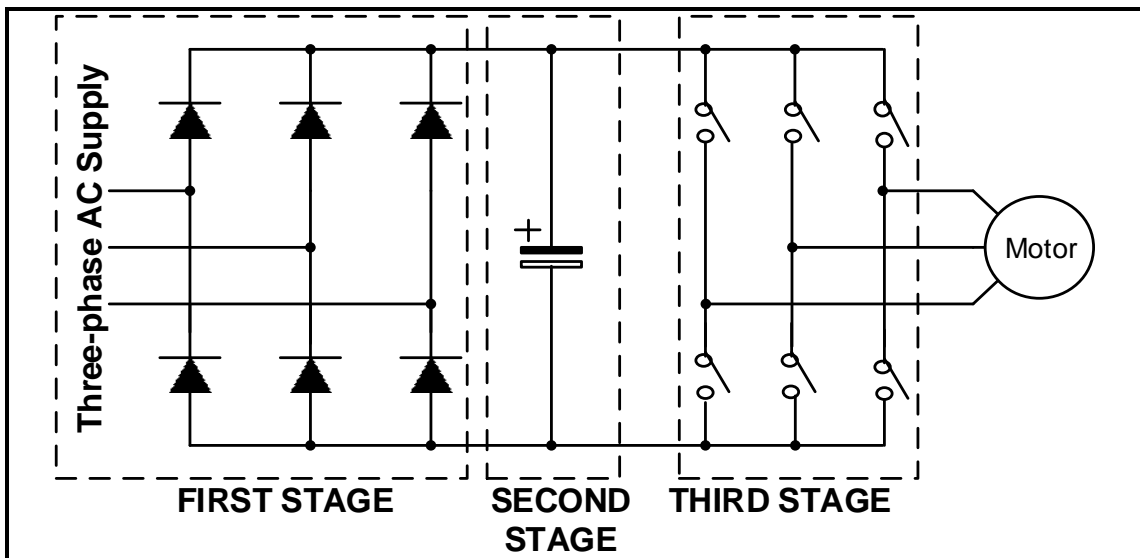

FIGURE 6.8: VARIABLE FREQUENCY DRIVE (VFD) CIRCUIT
6.8 FIGURE 6.8 below shows a variable frequency drive (VFD) circuit. Study the circuit and answer the questions that follow: